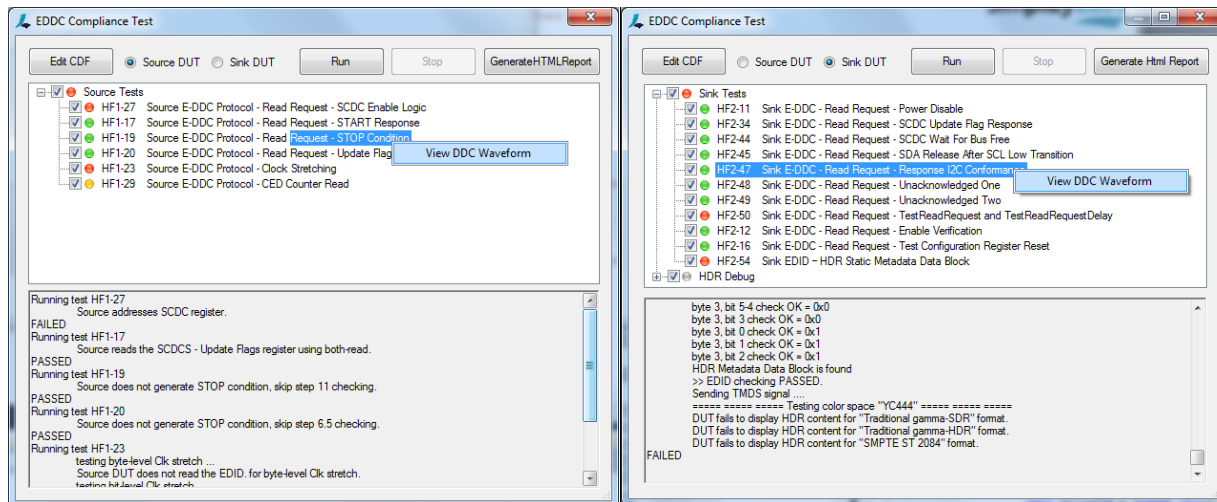

Figure 4.7. DDC Waveform Viewer
8. After all the selected tests, for either Source Test or Sink Test in the EDDC compliance test, are completed, right click on the test case. Click “View DDC Waveform” to get a detailed DDC log (Figure 4.7).